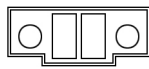

Fig. 21. Auxiliary contact connector of the UPS manual bypass.
- The manual bypass switch of the equipment has a micro-switch located under its mechanical lock. This contact is normally opened and it is extended till a terminal strip located in the rear side of the equipment [see Fig. 21] and internally connected with the own UPS control.